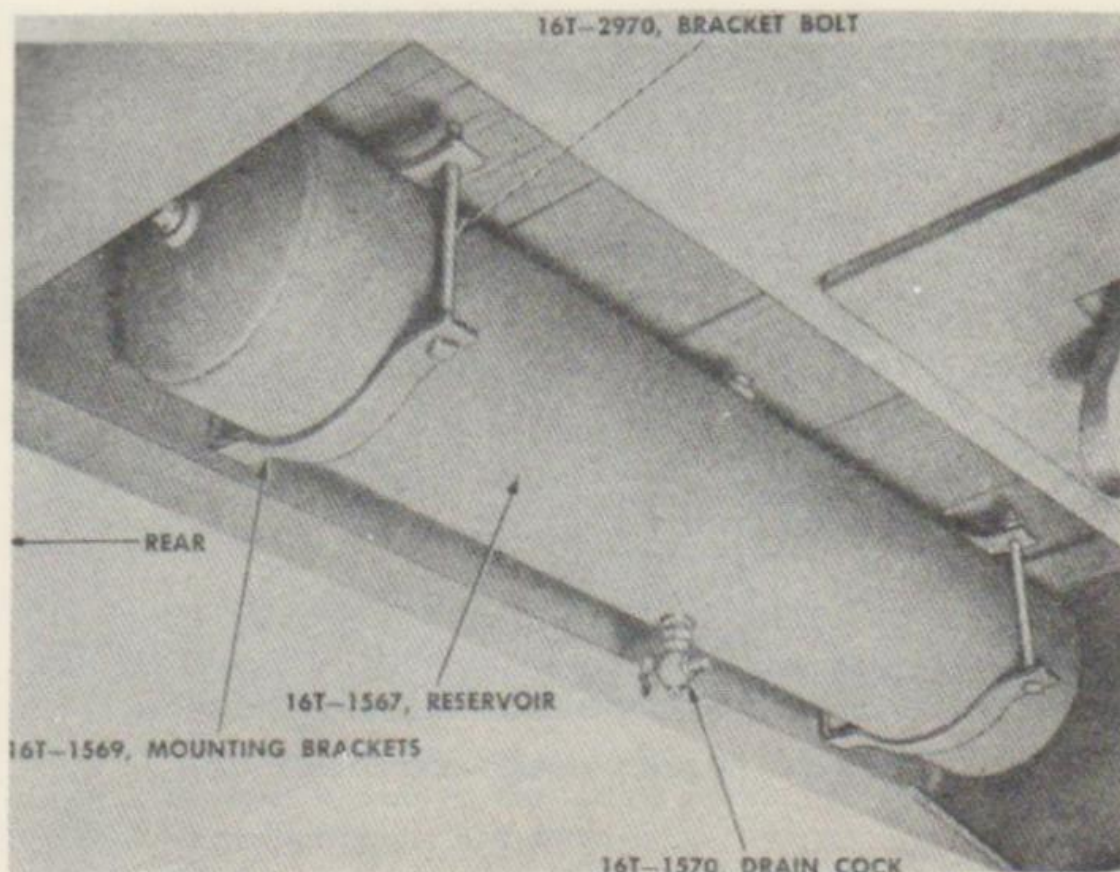

FIGURE 36. DRAIN COCK AND RESERVOIR MOUNTED ON TRAILER
a. General. The drain cock (fig. 36) is open when the handle is parallel to the body and is closed when the handle is at right angles to the body. Drain cock is installed in the bottom of reservoir in the air brake system, and its purpose is to provide a convenient means of draining and condensation which normally collects in the reservoirs.